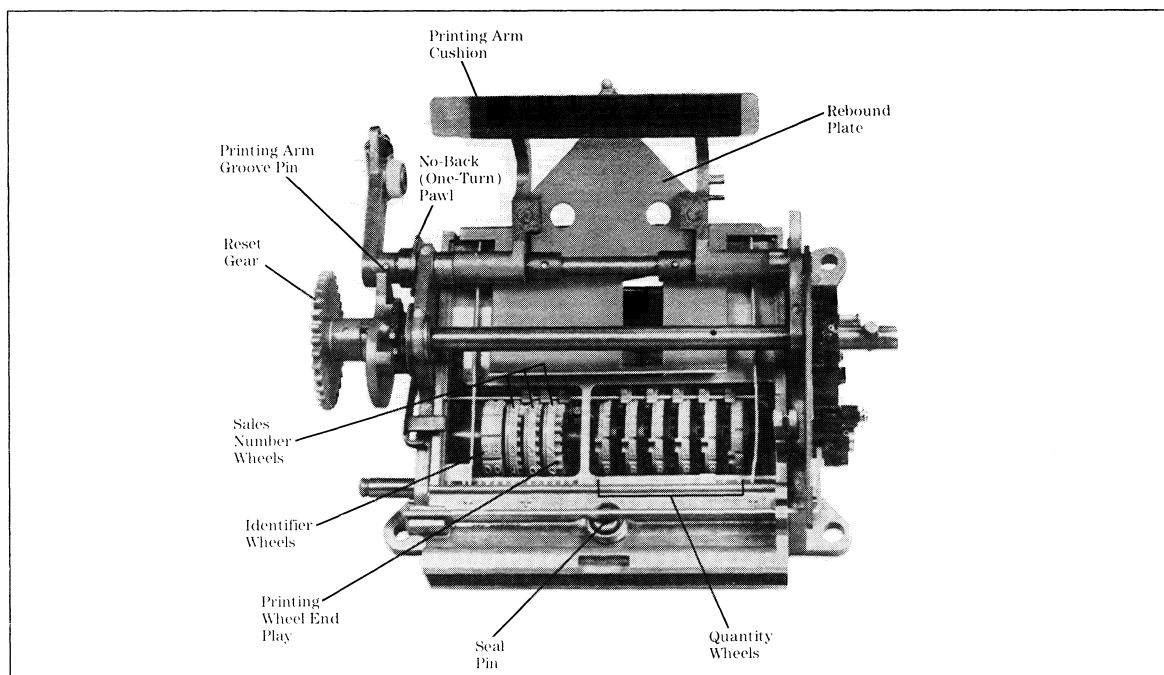

Figure 11. Parts Identification
A. GENERAL CHECKS. (Figures 11 through 15). If the reason for the trouble is unknown, it is necessary to examine the printer to locate and replace malfunctioning parts.